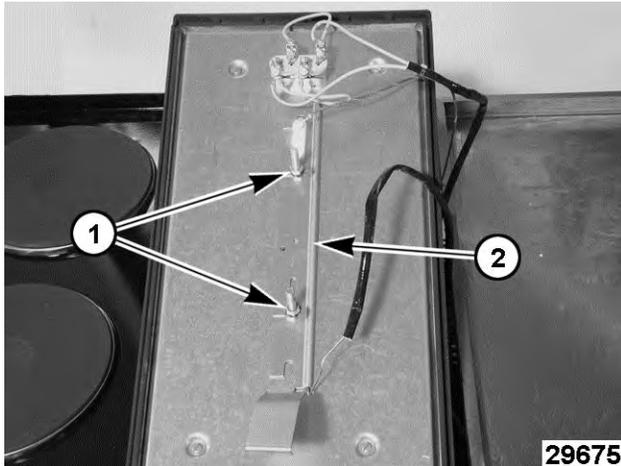

Fig. 18
2. Remove mounting nuts (1, Fig. 18) that hold thermostat bulb clamp (2, Fig. 18) to the plate assembly.